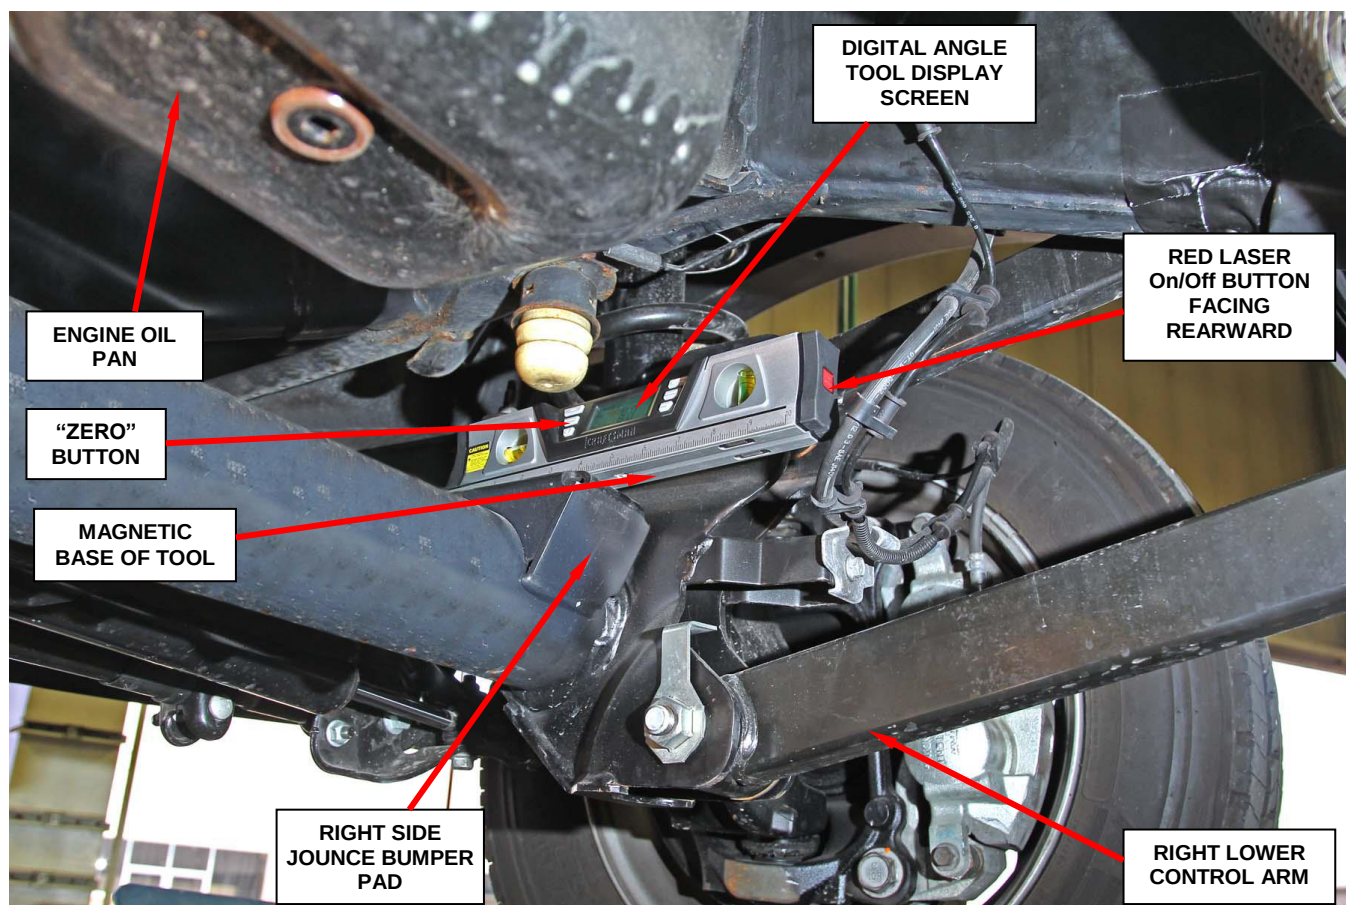

Figure 3 – Digital Angle Tool on Right Jounce Bumper Pad
5. Place the digital angle tool onto the right jounce bumper pad with the magnetic side down and the red laser ON/OFF button facing rearward (Figure 3).
6. Press and hold the “**ZERO**” button for approximately three seconds (Figure 3).